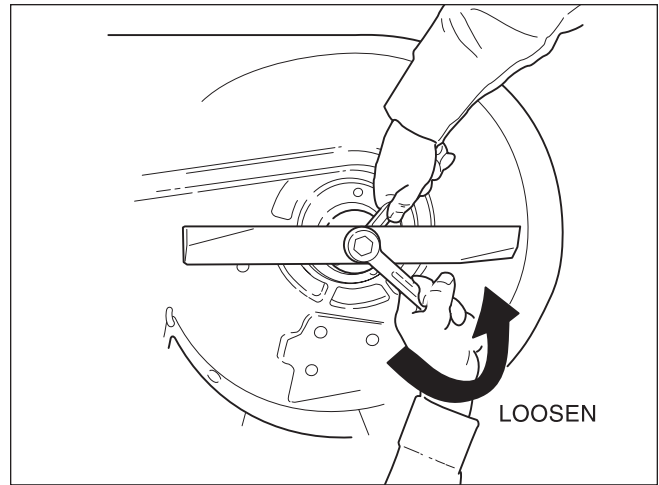

Figure 28. Removing the Blade
2. To remove blade for sharpening, use a 1" wrench on the flats of the spindle shaft while removing the blade mounting bolt with a 15/16" wrench (Figure 28).